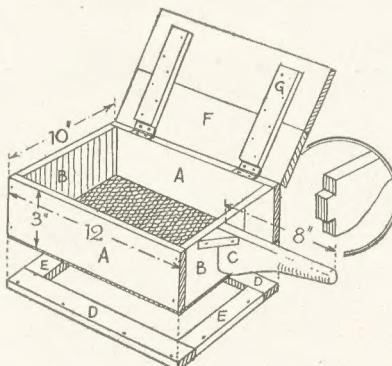
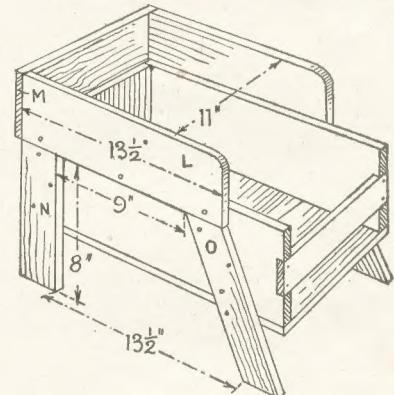

Fig. 1—Sifter constructional details
Fig. 3—The stand portion and box
Commence by making the sifter, as Fig. 1 shows. It consists of a box-like frame formed of two sides (A)
long, shaped and rounded at the end to suit the hand. A tenon is formed also at the square end, as in the enlarged detail in Fig. 1, a corresponding mortise cut to fit it being made centrally in the end of the sifter box. Two small angle blocks can be nailed on each side of the handle to strengthen it. If a lid is made for the sifter then it can take the form shown, two 5in. boards as (F) being butted together and held by cross battens (G) nailed on underneath.
The formation of the cradle to be built round the box is shown in Fig. 3, and the first parts to cut and nail on will be the two upper flange rails (L). These are 3ins. or so wide and lap down on to the box top about 1in. to allow for secure nailing thereto. Round off the front corners of the rails as shown and make smooth. Then cut and fix the
If the patterns are required for brooches, a pin must be fitted. Cut a slot in the back, making this rather rough and jagged, and insert a safety pin, as shown in Fig. 3. Fill up the hole with plastic wood (Fig. 4). A better job is made by using a proper brooch pin (Fig. 7). It is also possible to obtain special brooch backs of the type illustrated in Fig. 1. These have a metal base to which the brooch itself, whether of wood or plastic sheet, may be cemented.
We have purposely not yet mentioned any special thickness for the wood or plastic sheet, as this will depend on the type of brooch being made. If the brooch is to be mounted on a metal brooch-back, quite thin material can be used, but thicker material must be used if a pin is being let in, as in Fig. 3.